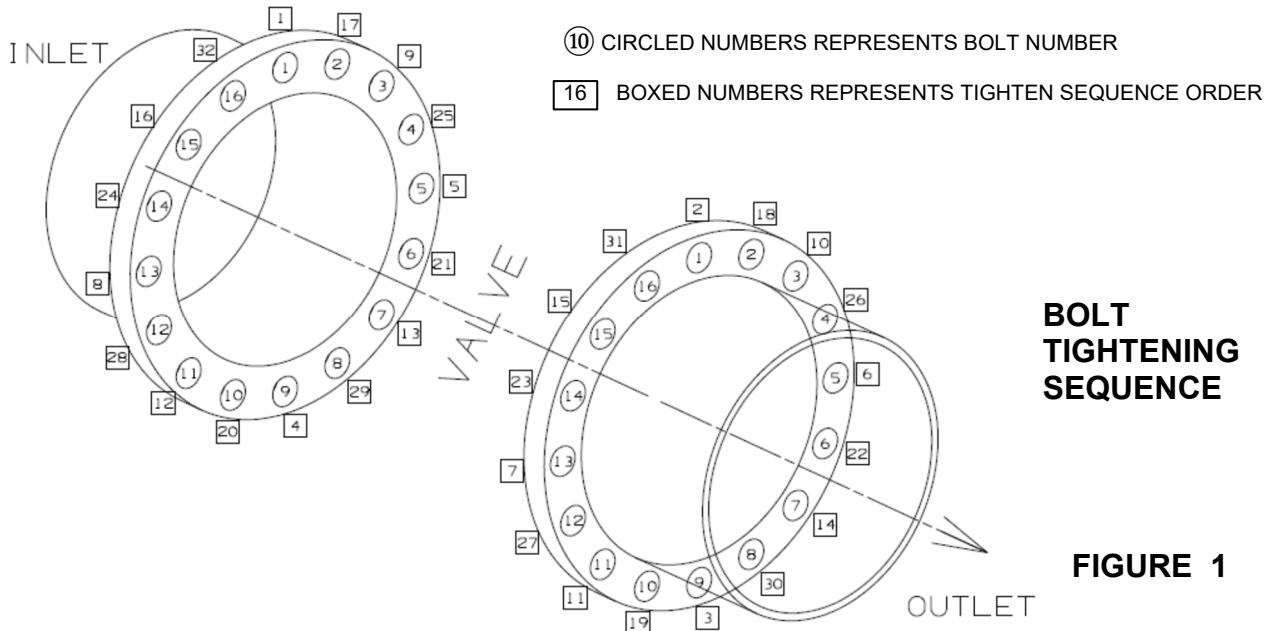

FIGURE 1
5. After proper operation is verified, tighten the bolts to the **minimum** recommended bolt torques listed in **TABLE 3**, next page, using a cross-over pattern as shown in **FIGURE 1**, next page.